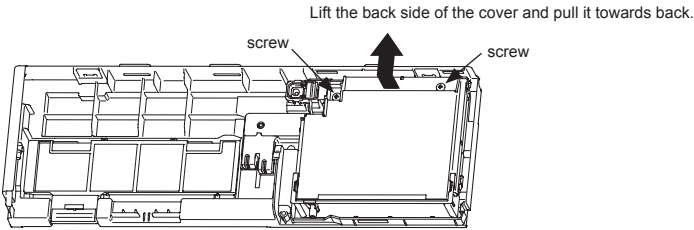

Fig. 9
7) Remove the screw to remove the ELECT\_COVER. (Fig. 9)